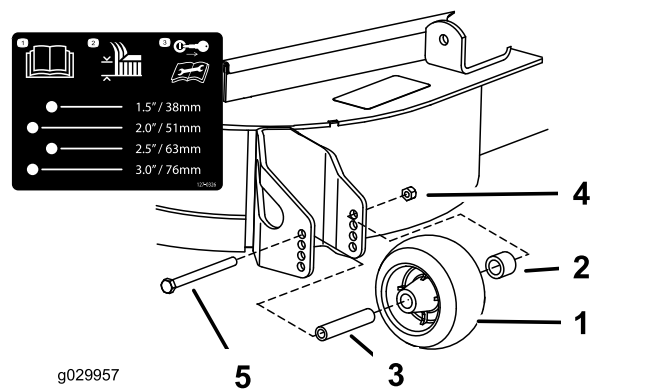

Figure 31
3. Adjust the anti-scalp rollers as shown in Figure 29, Figure 30, and Figure 31.